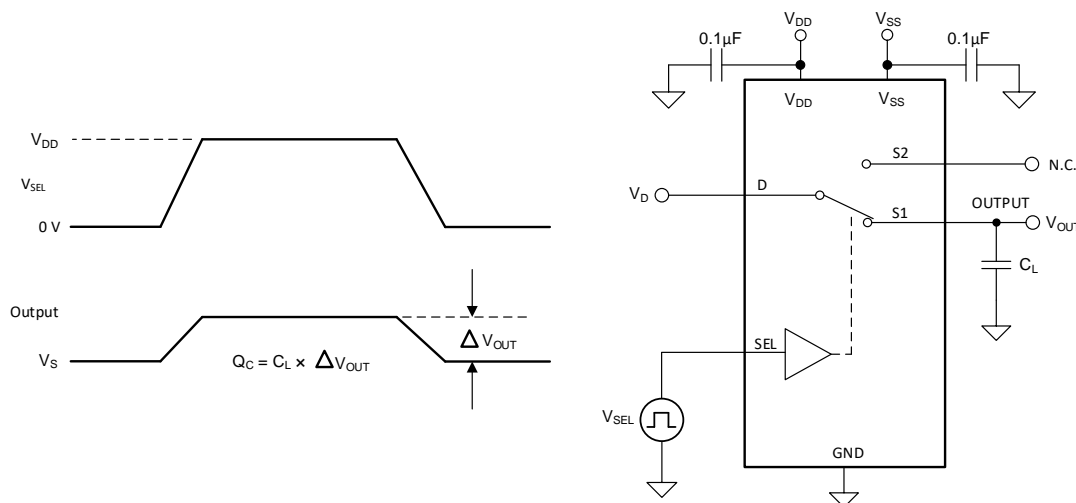

图 12. Charge-Injection Measurement Setup
The TMUX1247 has a transmission-gate topology. Any mismatch in capacitance between the NMOS and PMOS transistors results in a charge injected into the source or drain of the device during the falling or rising edge of the gate signal. The amount of charge injected into the source or drain of the device is known as charge injection, and is denoted by the symbol  $Q_C$ . 图 12 shows the setup used to measure charge injection from Drain (D) to Source (Sx).